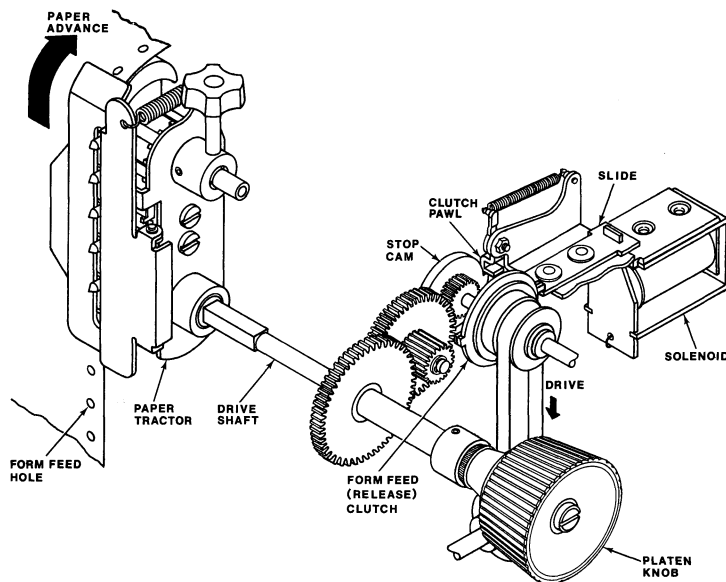

Figure 1-5. PAPER MOVEMENT MECHANISM
1.3.2 PAPER MOVEMENT (Figure 1-5)